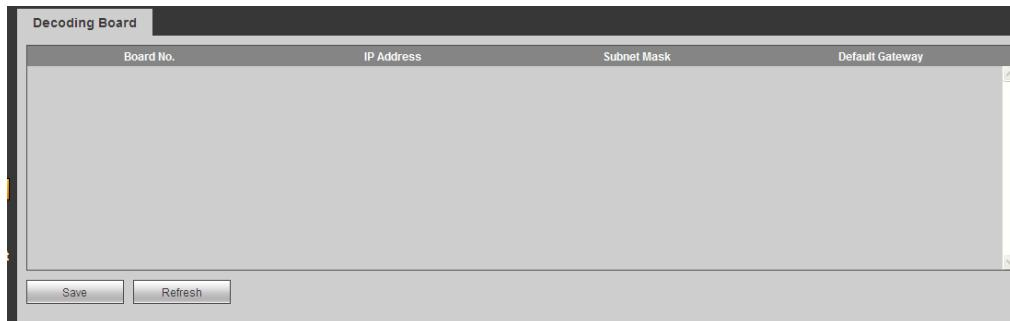

Figure 3- 34
Step 1. Select settings>system config>decoding board. System displays Figure 3- 34.